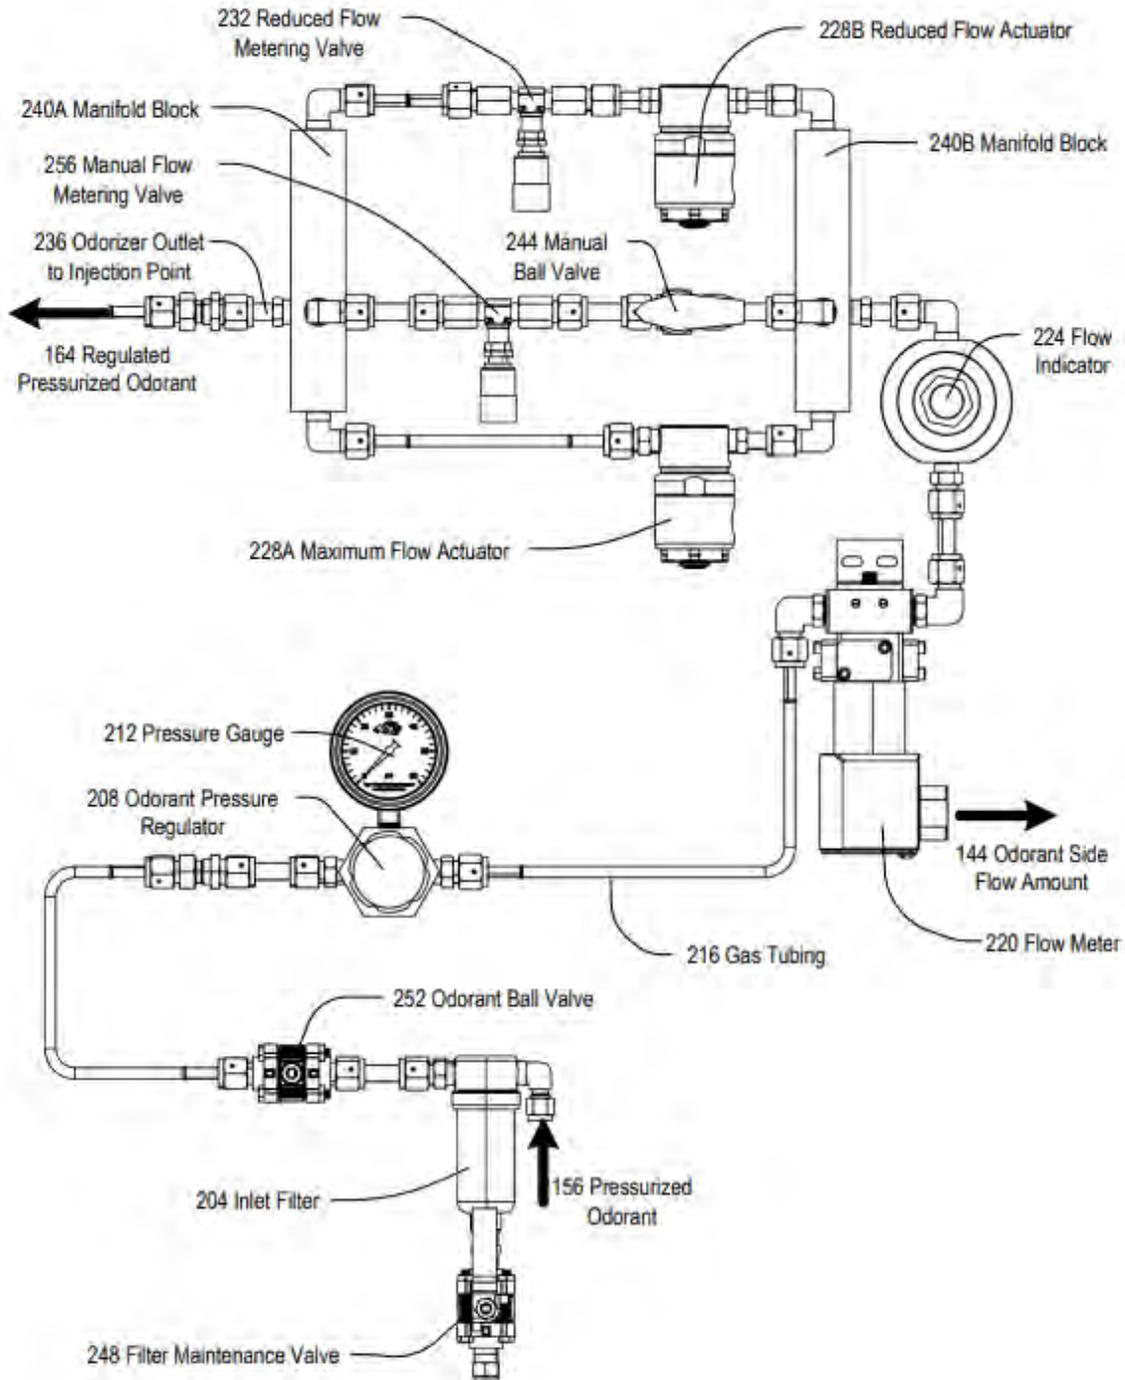

Figure 1: Mechanical components of the GPL 5000
The pressure on the bulk tank drives the liquid odorant to the mechanical cabinet of the GPL 5000. Within the mechanical cabinet, the fluid is filtered by an inlet filter to remove debris that may have come from the bulk tank (Figure 1: component 248). Odorant flows through a pressure regulator (component 208), which regulates the pressure to 5-15 PSIG over the injection point. At this point, the fluid flows through a flow meter (220), continuously providing the PLC with data on how much odorant flows to the injection point.